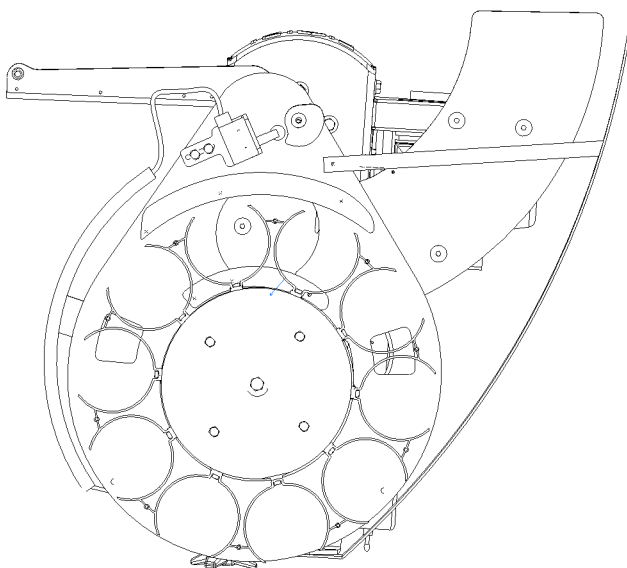

Fig. 1
- ! That the release arm is in position of disarmament (see fig. 1) ;